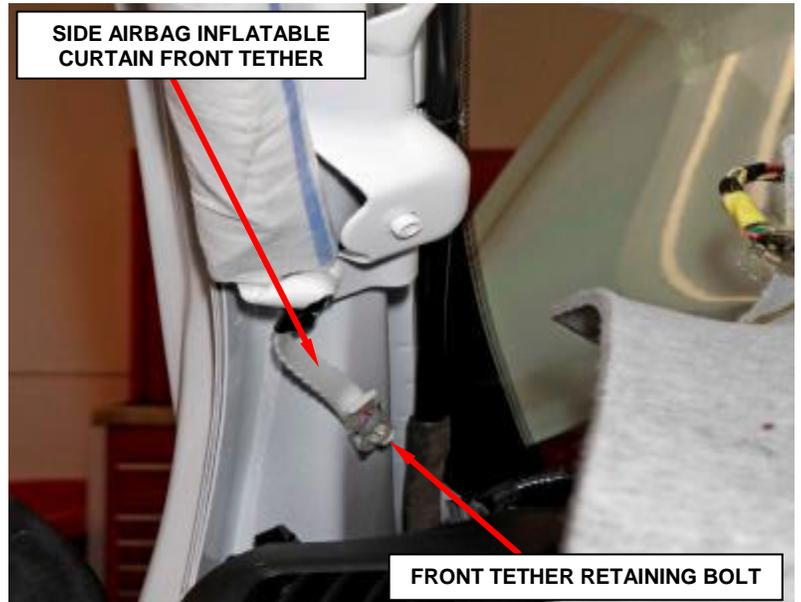

Figure 30 – Tether Retaining Bolt
5. Remove the side airbag inflatable curtain front tether retaining bolt (Figure 30).
15. Install the front tether retaining bolt. Tighten to 70 in. lbs. (8 N·m) (Figure 30).